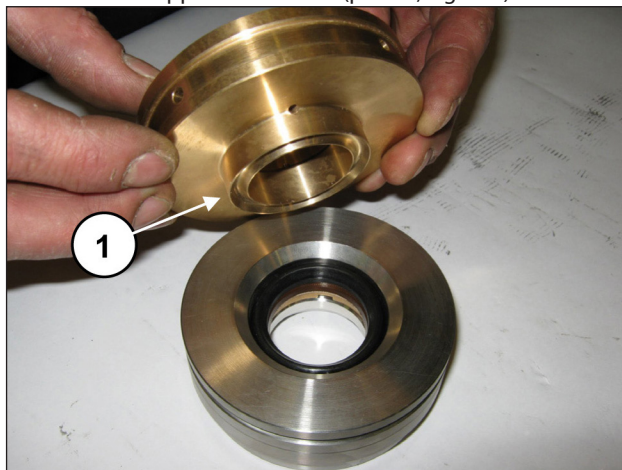

Fig. 179
Join the seals support to the liner (pos. ①, Fig. 179).